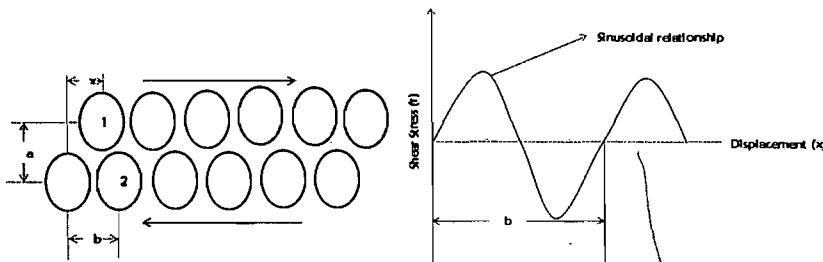

Figure 1
- d. Consider two planes of atoms subjected to a homogenous shear stress (Figure 1). The shear stress is assumed to act in the slip plane along the slip direction. The distance between the atoms in the slip direction is b and the spacing between the adjacent lattice planes is a . The shear stress causes a displacement, x in the slip direction between the pair the pair of adjacent lattice planes.